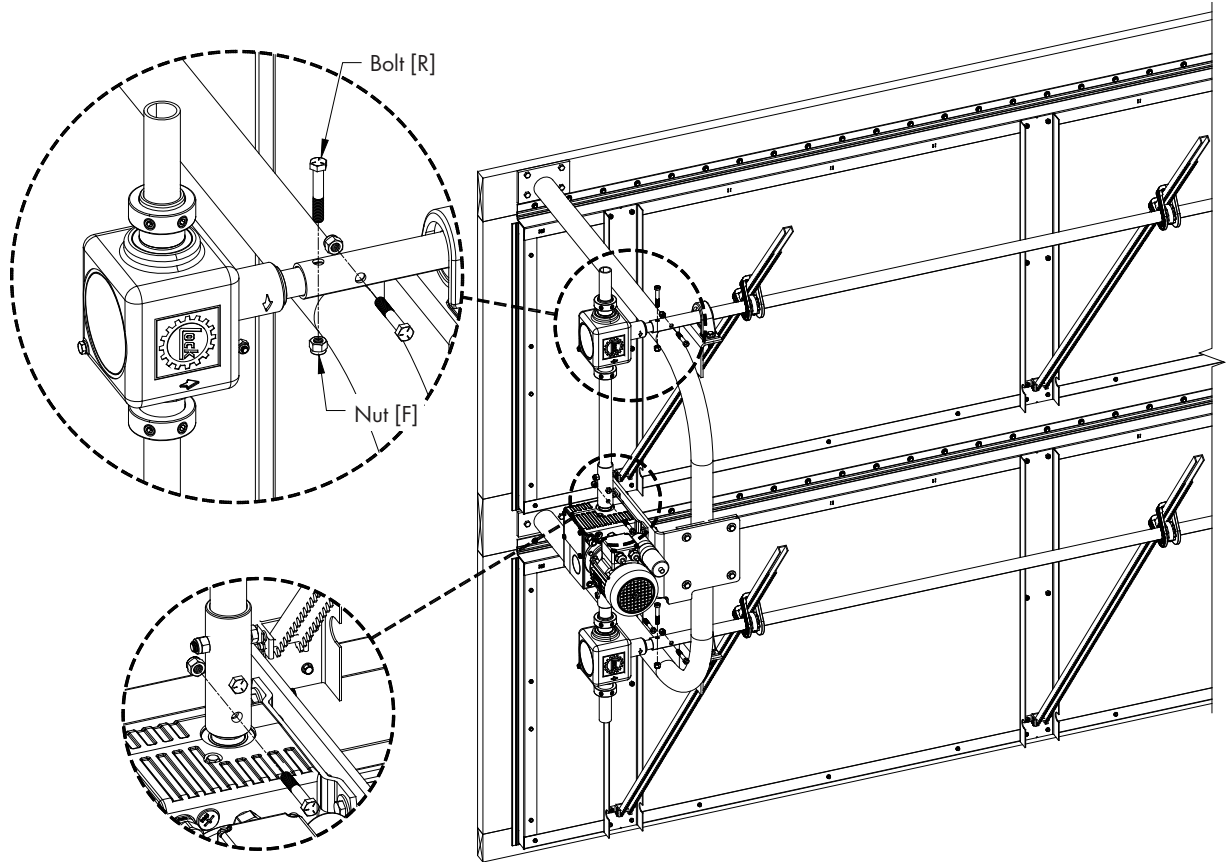

Figure 50
Align the holes in the Main Drive Pipe with the holes in the Shaft of Gearbox and the hole in the Straight Coupling with hole in Shaft of Actuator and secure with (3) Bolt [E] and Nut [F]. See Figure 50.